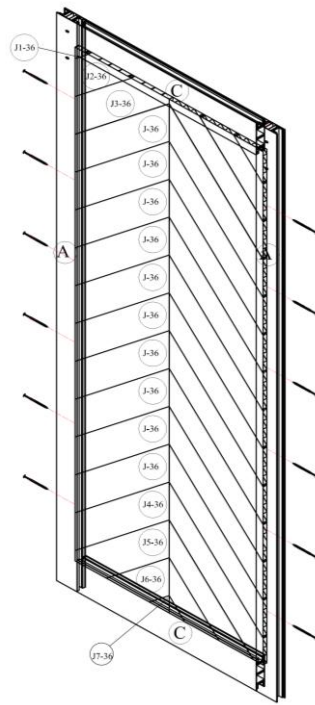
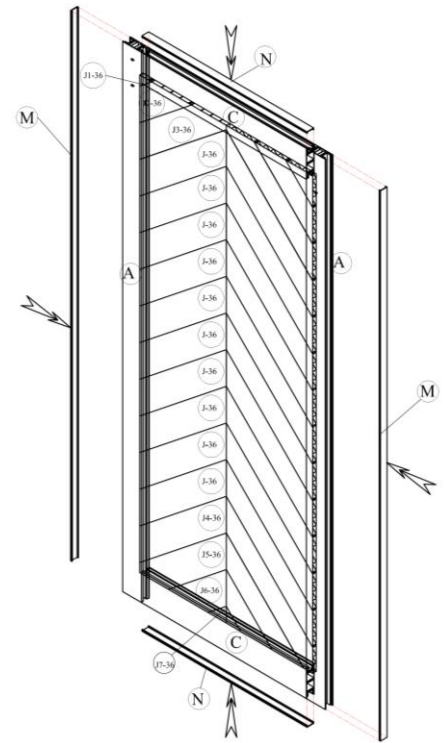

Figure 9A
Figure 9B
Check the door again. Make sure that there is not any big gap between the panels of door. Gently tap into place with the rubber mallet if necessary. Place 12 of the 4" screws (Z) into the 12 holes in the outside of the channels (6 holes per channel). Fully tighten the screws. See **Figure 9A**. Next, snap the 2 side finishing strips (M) into place. Snap the top and bottom strips (N) into place. See **Figure 9B**.